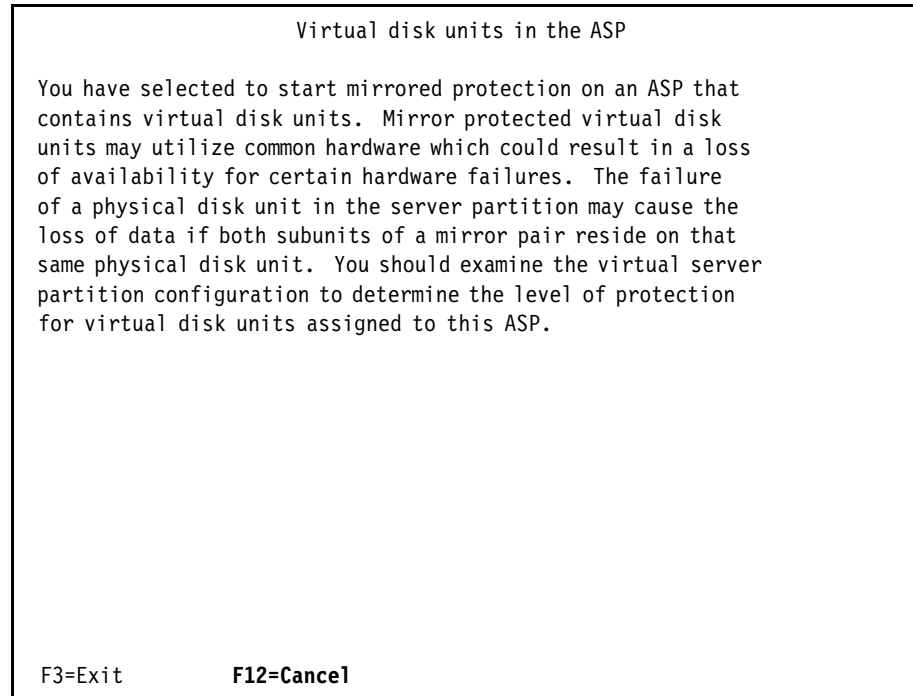

Figure 16-54 IBM i DST Virtual disk units in the ASP message
12. We are presented with an important warning message about using mirrored protection with virtual disk units shown in Figure 16-54, which reminds us to make sure that the desired level of mirrored protection, in our case *IOP level mirroring* for mirroring across the two virtual IOPs each connected to another Virtual I/O Server, can be achieved with the virtual I/O configuration, which basically requires the volumes from each mirror side to be provided by another Virtual I/O Server.